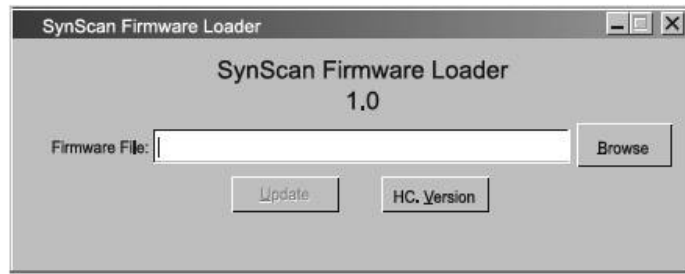

Fig. 50
4. Run the **SynScanFirmwareLoader.exe** software on your PC. Once the program is launched, you should see a window as shown in **Fig. 50**. The “HC. Version” button provides the version number of the hardware, firmware and database of your hand control. It is for your reference only and not required for the update.